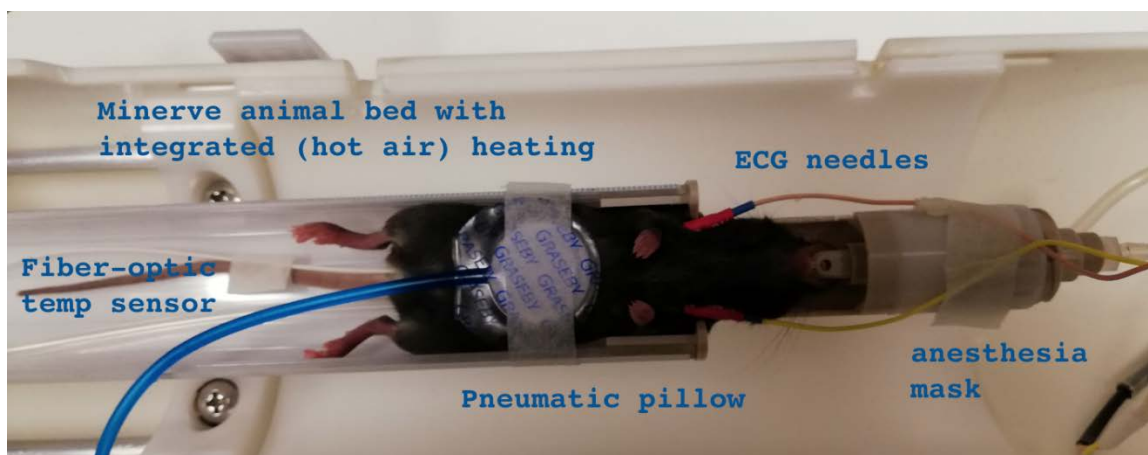

Figure 1: Mouse positioned on top of the Minerve animal bed.
- Apply the needle ECG electrodes under the skin near the fore legs (**Figure 1**) and attach the respiration balloon on the belly of the animal. Insert the temperature probe rectally with the help of some Vaseline.